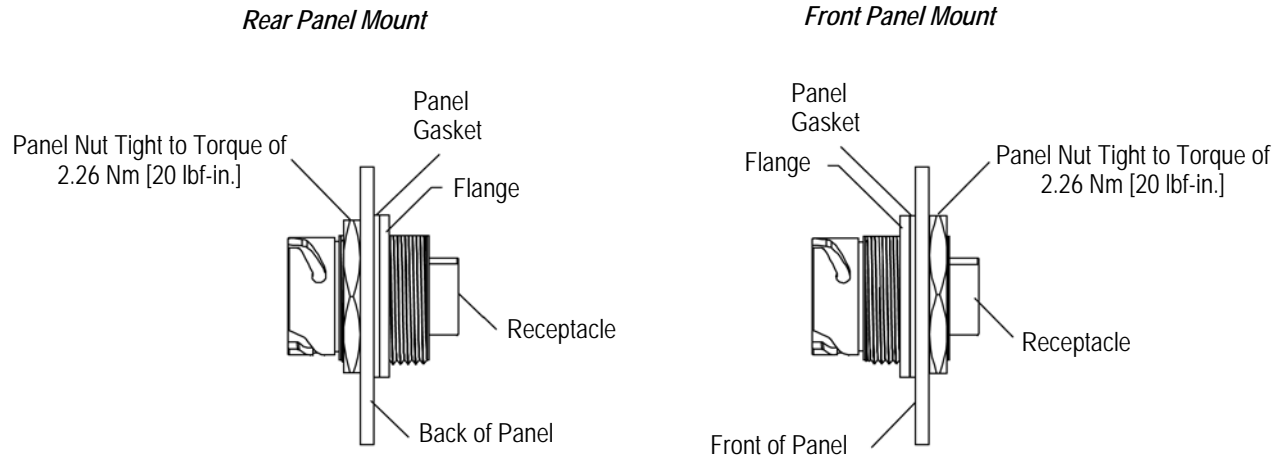

Figure 11
The receptacle assembly is designed to be front or rear panel mounted. A properly mounted receptacle assembly must have the following requirements (refer to Figure 11):
- the panel nut must be flat against the panel and tight to the torque given in Figure 11